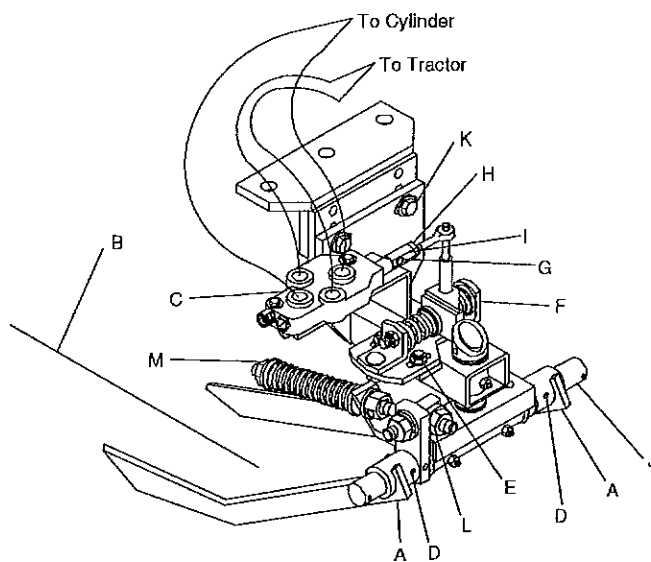

FIGURE 18 - ROW FINDER
The optional row finder helps keep your harvester on the rows. The feeler arms (A) rest astride the row (B) and follow the line of beets - sensing any change in the direction of the row or the position of the harvester (see figure 18). Sideward movement of a feeler arm actuates the hydraulic valve (C), which controls oil flow to the beet harvester steering cylinder.